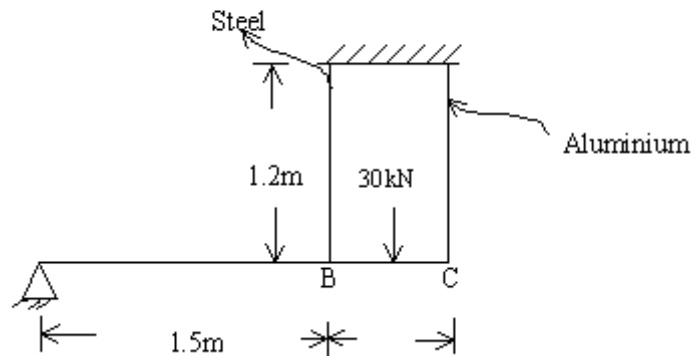

Figure 1:
- (c) A rigid bar ABC hinged at 'A' and supported at two points 'B' and 'C' by the steel and Aluminum bars whose c/s area is 500 mm^2 and 450 mm^2 respectively. A 30 kN load is acting mid-way between B and C. Determine the load taken by the two rods. Take $E_s = 2 \times 10^5 \text{ MPa}$, $E_{\text{Aluminium}} = 0.7 \times 10^5 \text{ MPa}$. {as shown in the figure1} [4+4+8]